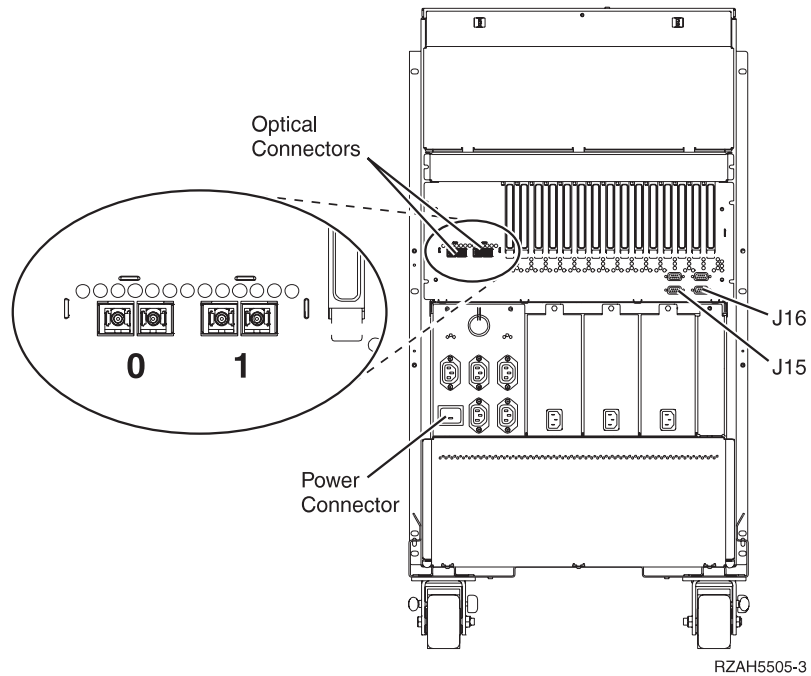

Figure 17. 5065 connector locations
- ___ 11. Refer to Figure 17 on page 15 and install the optical cable that you removed from unit X into the optical connector on your 5065 that is labeled **O**. The optical cable should now run between your system unit and your 5065.